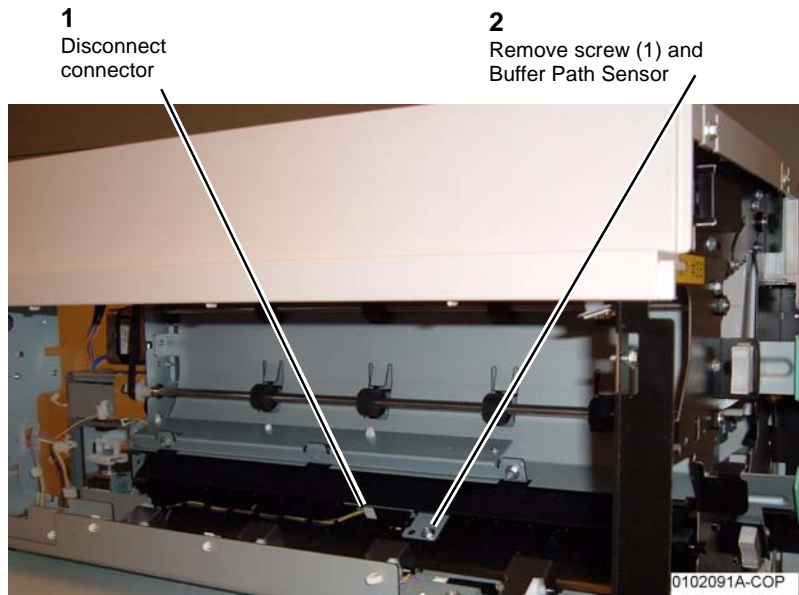

Figure 1 Removing the Buffer Path Sensor
6. Remove the Buffer Path Sensor (Figure 1).